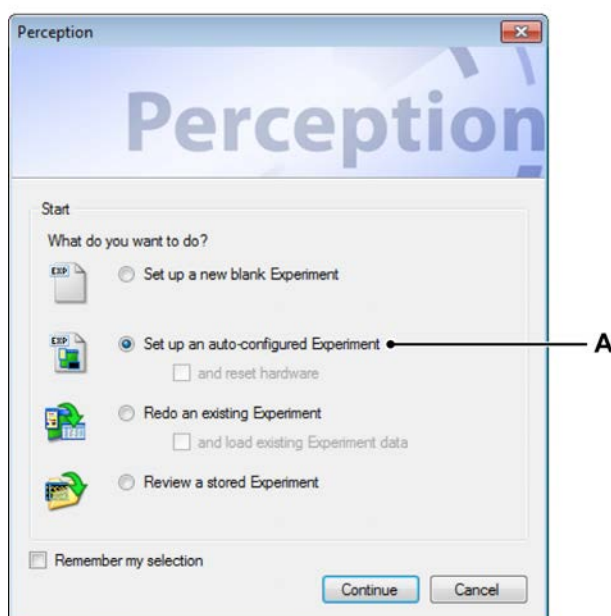

Figure 8.2: Perception job dialog
- 2 Perception will ask which job it should perform (see Figure 8.2):